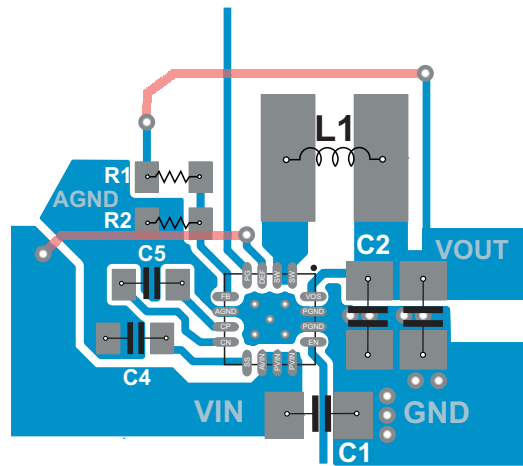

图 23. TLV62095 PCB Layout
- Refer to 图 23 for an example of component placement, routing and thermal design.